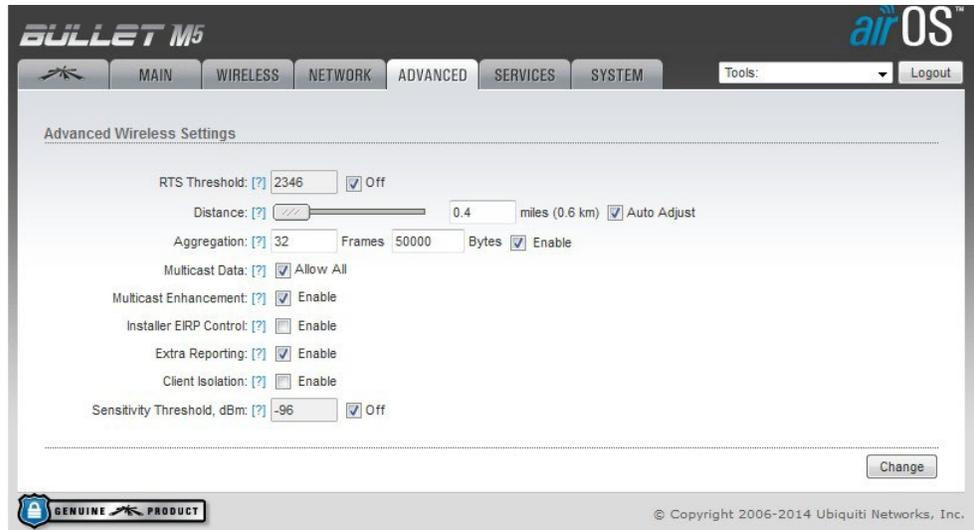

Figure 8. Client Isolation
6. **Optional:** If you are configuring a network which will require two Stations to communicate to each other (e.g., using an Access Point between two Stations not within line of sight of each other), turn off **Client Isolation** on the Access Point (Figure 8).